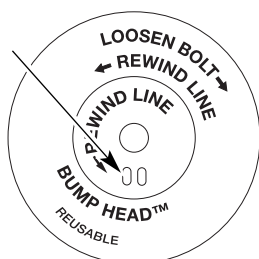

Fig. 35
**NOTE:** SplitLine™ can only be used with the inner reel with the slotted holes. Single line can be used on either type of inner reel. Use Figure 35 to identify the inner reel you have.